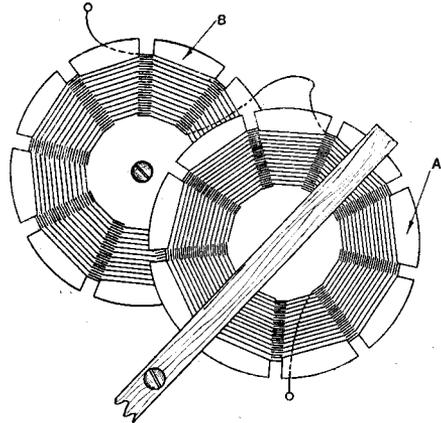

Fig. 4. Perhaps the simplest form of variometer consists of two basket coils connected in series, one of which, A, is movable with respect to B.
(A) Probably the simplest variometer is constructed by arranging one basket coil to move away from another, Fig. 4. The inductance variation, however, is not very large, and will be smaller the greater the distance between the plane of the coils. Therefore, if a reasonable variation is required, the surface of the moving coil should only just clear the surface of the fixed coil. This type is often